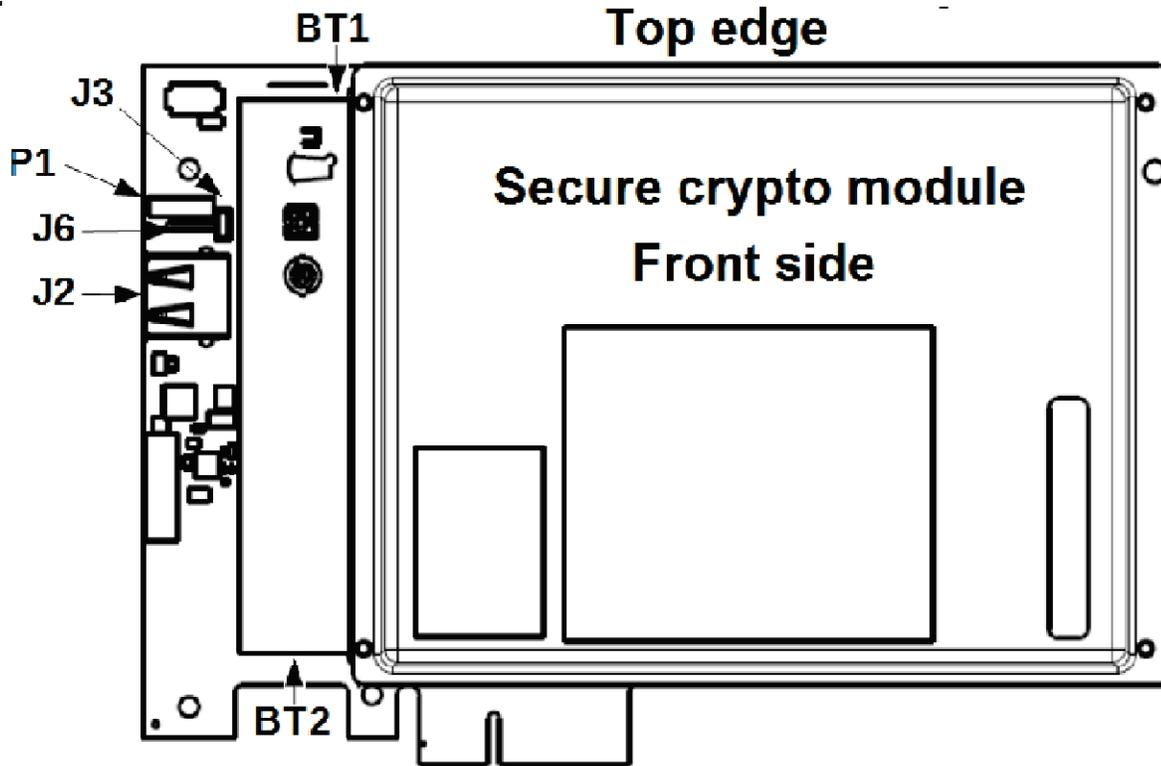

Figure 1. Jumpers on the IBM 4767-002 PCIe Cryptographic Coprocessor (front side)
7. Verify that the jumpers on the card are positioned correctly. See Figure 1 on page 6 and Table 4 on page 6.
10. Refer to Figure 1 on page 6 for the location on the coprocessor of the P1 connector. Place the plug attached to the battery tray wires onto the P1 connector. The connector has three PINs configured in such a way (keyed) so as to ensure that the plug from the battery tray can only be plugged onto the connector with correct polarity.
13. Refer to Figure 1 on page 6. Working on a non-conductive surface, remove the battery from the top socket of the battery holder, located at the BT1 position of the coprocessor. You can eject the battery by turning the coprocessor over and inserting a small blunt object such as a screwdriver through the hole provided. The hole is covered by plastic tape to protect exposed circuitry. Carefully peel back the tape enough to expose the hole, then eject the battery and replace the tape.